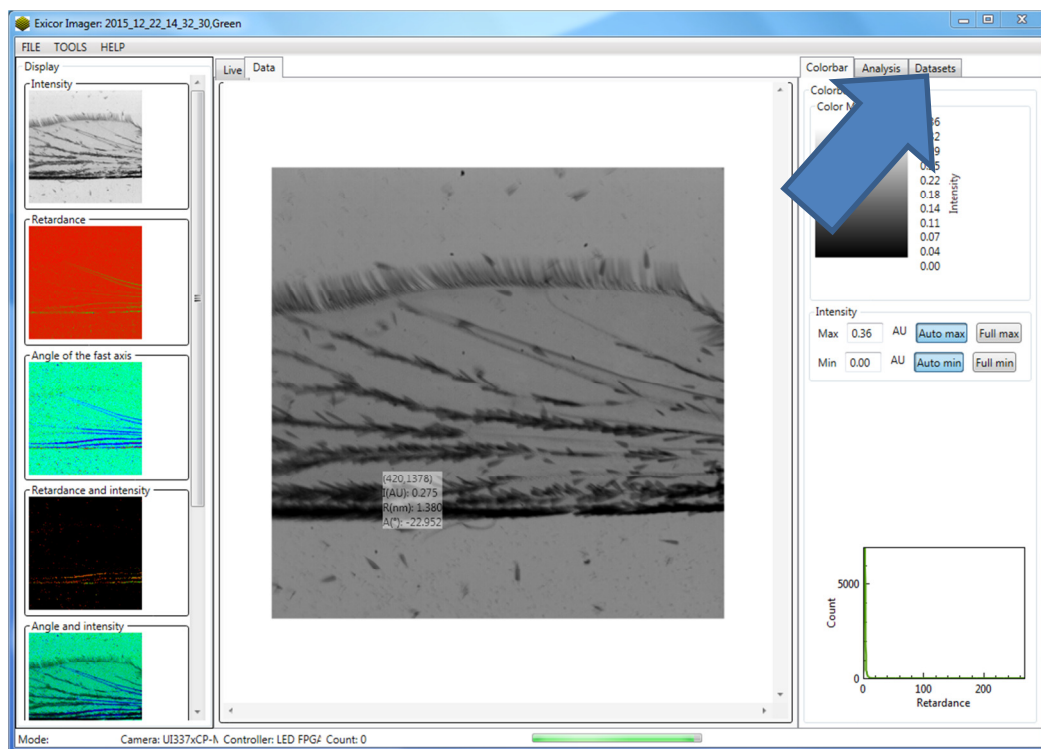

Figure 15 Dataset Tab.
2. The datasets (and all previous datasets) will appear in the data sets tab as found in Figure 15.